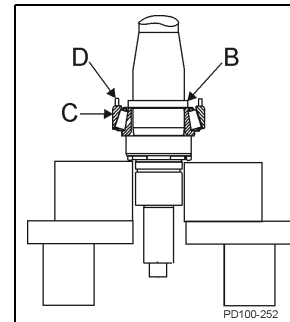

Figure 48 - Install Inner & Outer Spacer and Lower Cup
4. Place inner spacer (Figure 48, item B) over shaft onto lower cone and roller assembly.